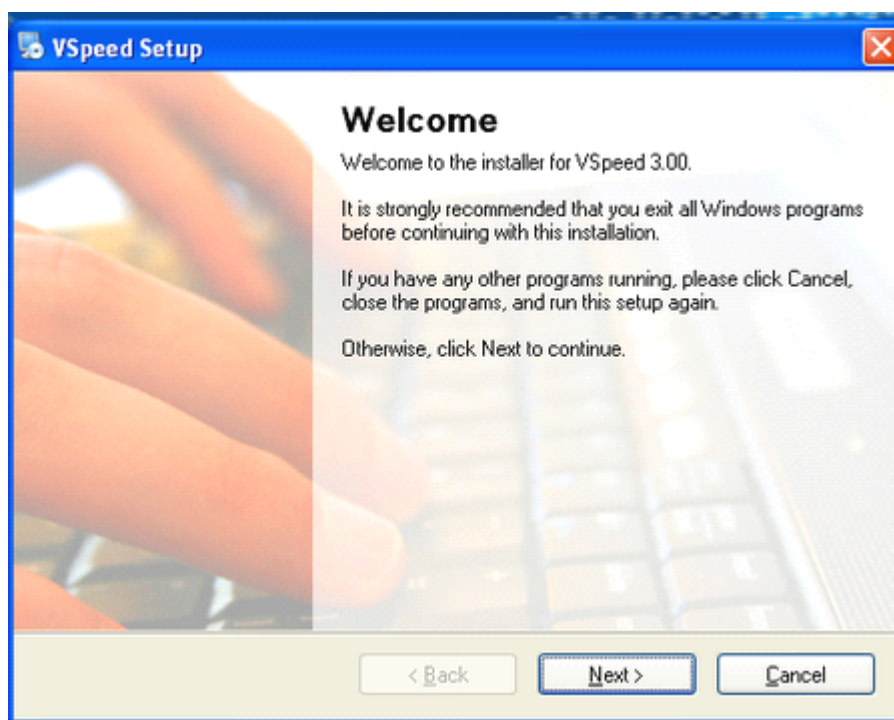

Figure 1: VSpeed Setup Launch
(1) Dblclick the VSpeed.exe to launch the setup in the folder VSpeed of the disk. The window is showing as Figure 1.